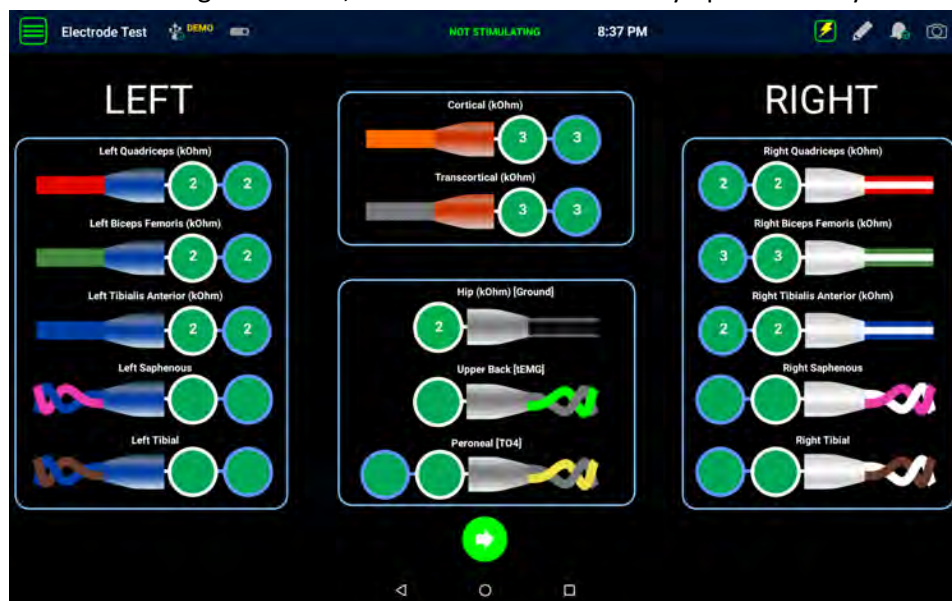

Figure 11: Electrode Check Screen
10. At this point the impedances of all the possible acquisition electrodes in the chosen monitoring plan are checked. The electrodes on the touchscreen image will be grey if the impedance check has not been completed. The electrodes on this screen will appear green when the impedance is acceptable ($\leq 15 \text{ k}\Omega$, see Figure 11) and red when unacceptable ($> 15 \text{ k}\Omega$). In the case of unacceptable impedance, check to make sure the electrode and cable connections are secure and apply or reapply a new electrode to clean dry intact skin if necessary. The impedance check will automatically cycle through the electrodes it expects to be present according to which monitoring plan was chosen and display any updated data. Touching and holding for two (2) seconds on a recording electrode presents the user with the ability to mute a channel. This effectively turns the channel off and is primarily used as a troubleshooting tool. If some electrodes that are present in the monitoring plan have unacceptable impedances, the application will enable you to proceed without resolving them. Once the system has completed the impedance check of the acquisition electrodes, it will automatically proceed to check the connection of the stimulating electrodes, which is then automatically updated every 5 seconds.